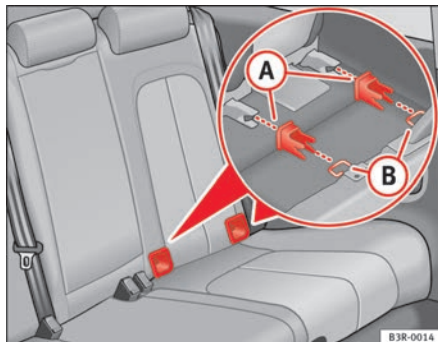

Fig. 32 Position of the ISOFIX anchorages on the side rear seat
- Fit the plastic guides on the vehicle's ISOFIX anchorages between the backrest and the seat ⇒ fig. 32.